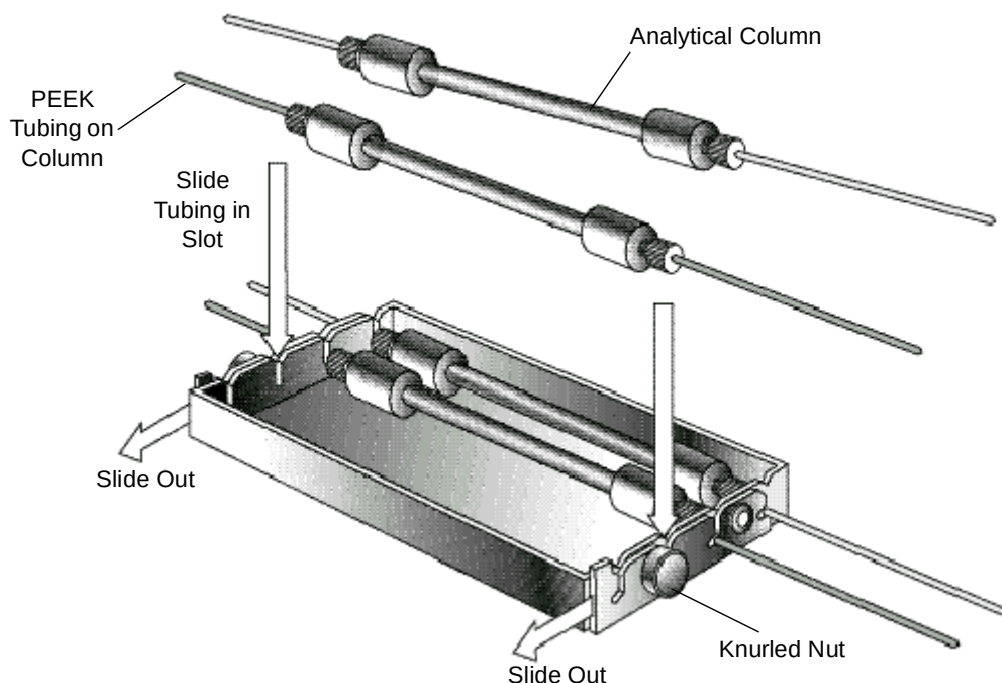

Figure 2-18 Installing Columns in the Column Bracket
6. Install four analytical columns in the column bracket as follows (Figure 2-18):